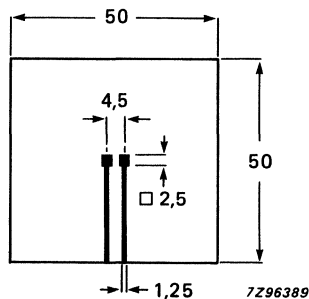

Fig. 2 Mounted on a printed-circuit board.
- Thermal resistance from junction to ambient; device mounted on an 1,5 mm thick epoxy-glass printed circuit board; Cu-thickness $\geq 40\text{ }\mu\text{m}$ (see Fig. 2)